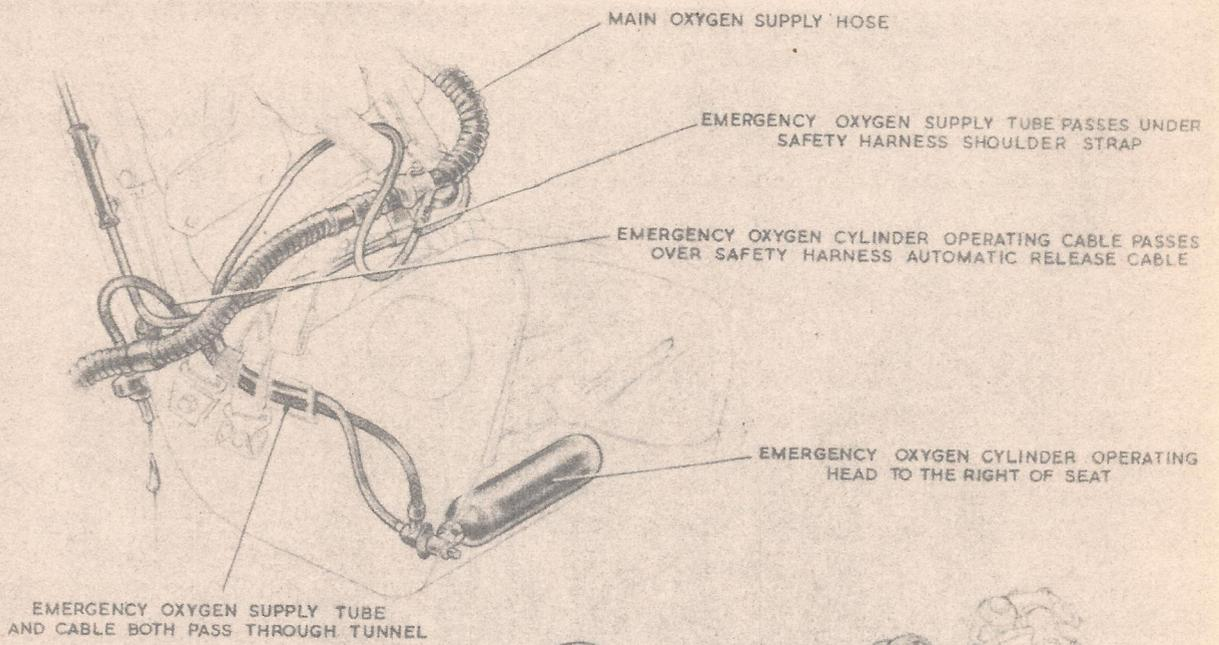

Fig.3 Arrangement of oxygen supply on seat
1. The correct routing of the main oxygen hose and the automatic release cable of the safety harness quick-release fitting is shown in fig 3.